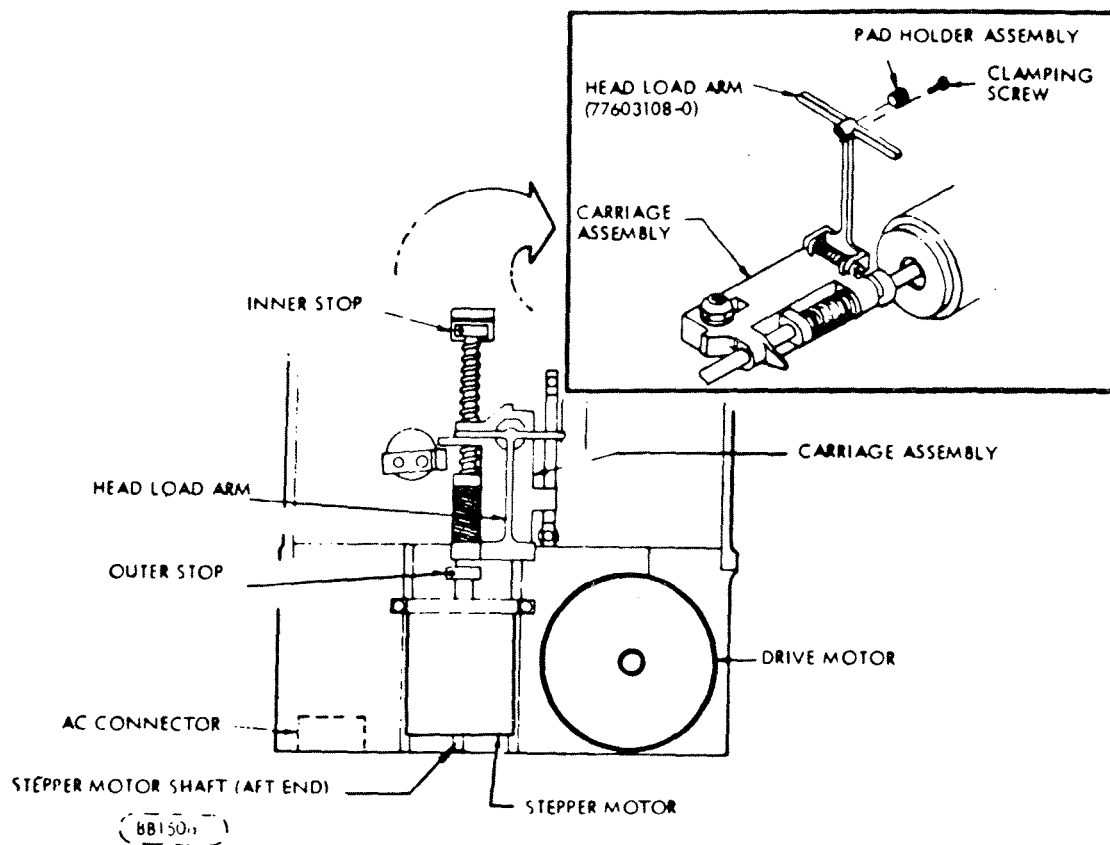

Figure 15.10 HEAD LOAD PAD REPLACEMENT
REPLACING THE HEAD LOAD PAD (SEE FIGURE 15.10)
- . If head load arm is a 77603108 (figure 15.10) proceed four steps ahead, if not go to next step.